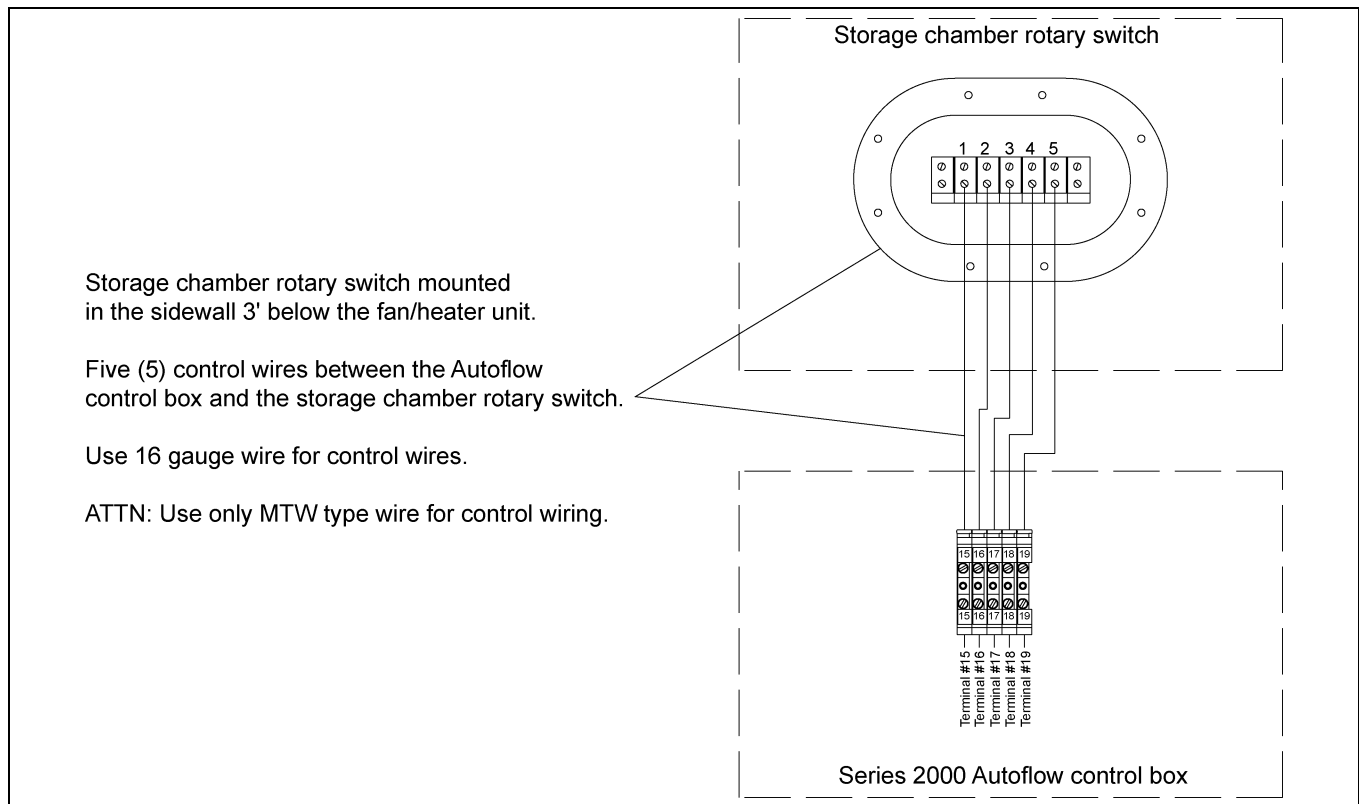

Figure 4H
1. Run five (5) control wires from the Autoflow control box to the Storage Chamber Rotary switch.
2. Connect the wires as shown in Figure 4H.